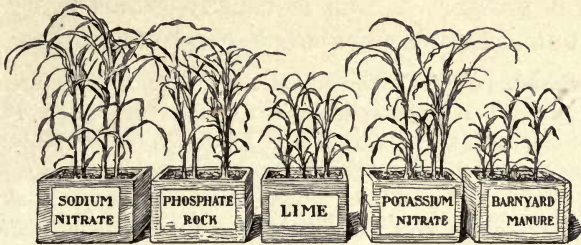

FIG. 256.
**How to Experiment with Fertilizer.** — The kind of fertilizer that is best suited for a particular soil may be determined easily by experiment. A small plot of land should be divided into several equal areas, or boxes may be used as shown in Figure 256; in one box sodium nitrate may be used, in another phosphate rock, in another potassium nitrate, in another lime, and in still other combina-